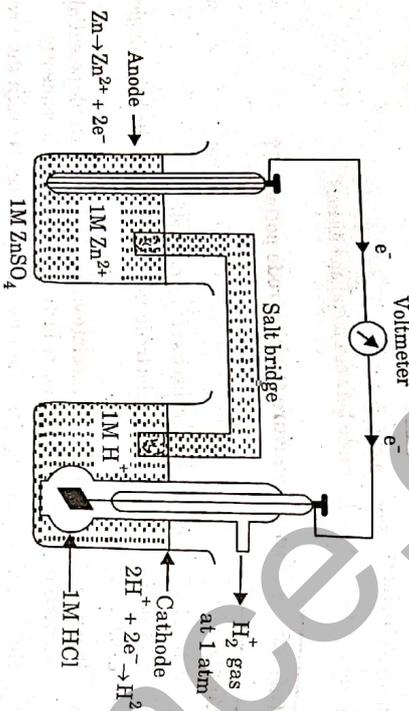

Fig. 3.8.1. Standard electrode potential (reduction potential) of zinc by combining with SHE.
14. The electrode is connected with the SHE as shown in Fig. 3.8.1.